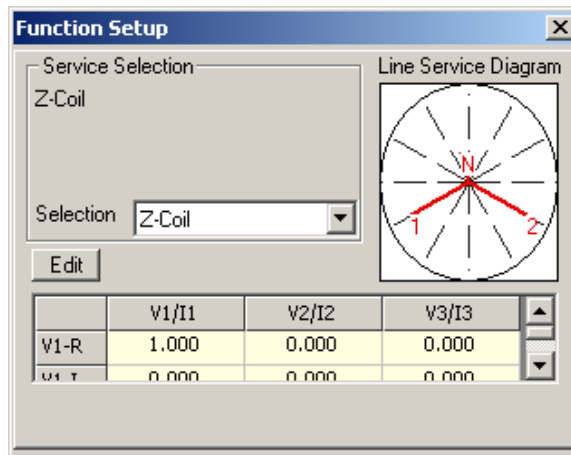

Figure 3.14.2.2
1. Service Selection Setup, figure 3.14.2.2